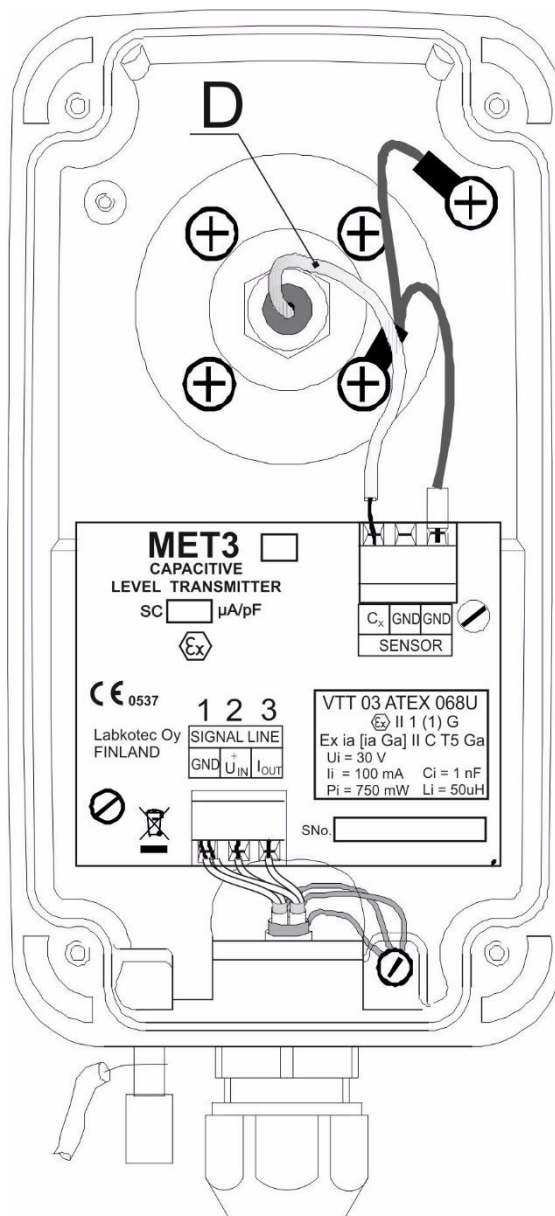

Fig 4. Transmitter housing with lid removed.
7. Lead the measuring cable D up to the transmitter housing (Fig. 4).
13. Connect the stripped end of the measuring cable D to the pole marked C_x in the SENSOR terminal block on the transmitter. Connect the green conductor at the bottom of the housing to the outermost GND pole in the same terminal block (Fig. 4).